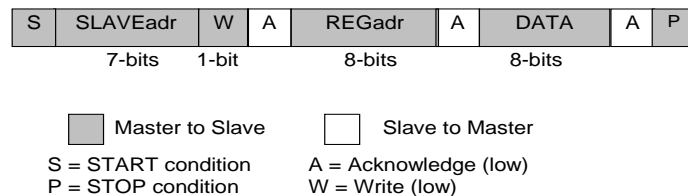
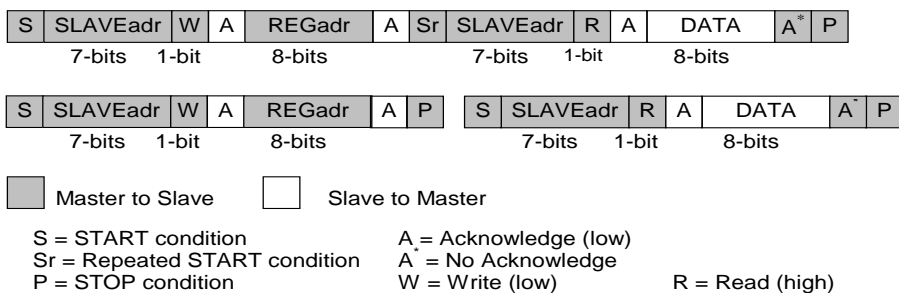

Figure 22: I²C Byte Write (SDA Line)
Figure 23: I²C Byte Read (SDA Line) Examples
The I²C bus is monitored for a valid slave address whenever the interface is enabled. It responds immediately when it receives its own slave address. The acknowledge is done by pulling the SDA line low during the following clock cycle (white blocks marked with A in Figure 22 and Figure 23).
The protocol for a register write from master to slave consists of a START condition, a slave address with read/write bit, and the eight-bit register address followed by eight bits of data, terminated by a STOP condition. DA9122 responds to all bytes with acknowledge (A), see Figure 22.
When the host reads data from a register it first has to write to DA9122 with the target register address and then read from DA9122 with a repeated START, or alternatively a second START, condition. After receiving the data, the host sends no acknowledge (A*) and terminates the transmission with a STOP condition, see Figure 23.